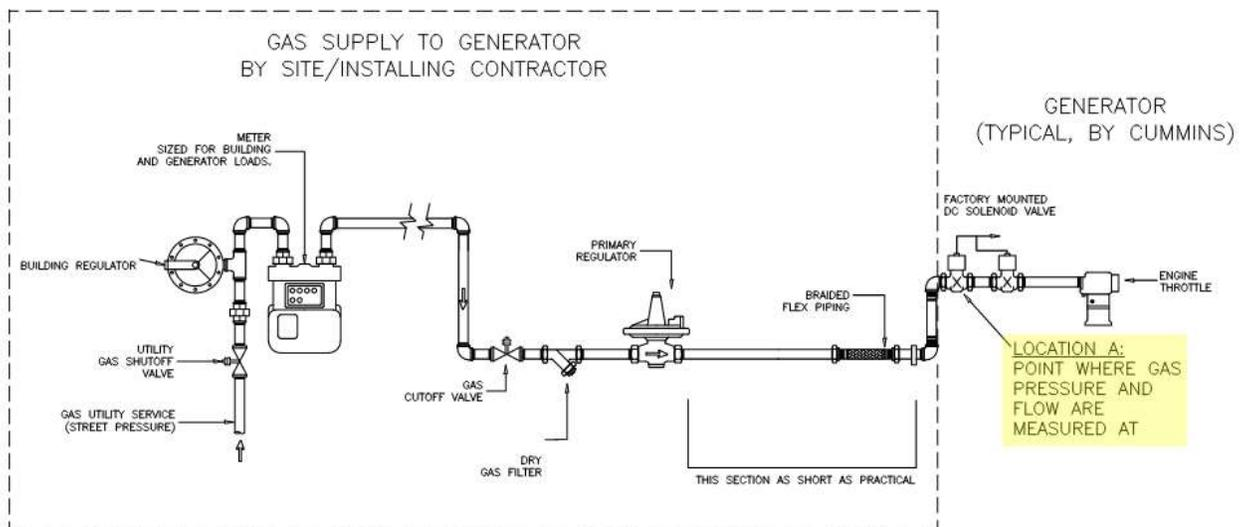

Figure 1. Typical site design
1. The required fuel pressure and volume **must** be available under **all** operating conditions at the generator set gas inlet (see Location A on Figure 1 for measurement point).